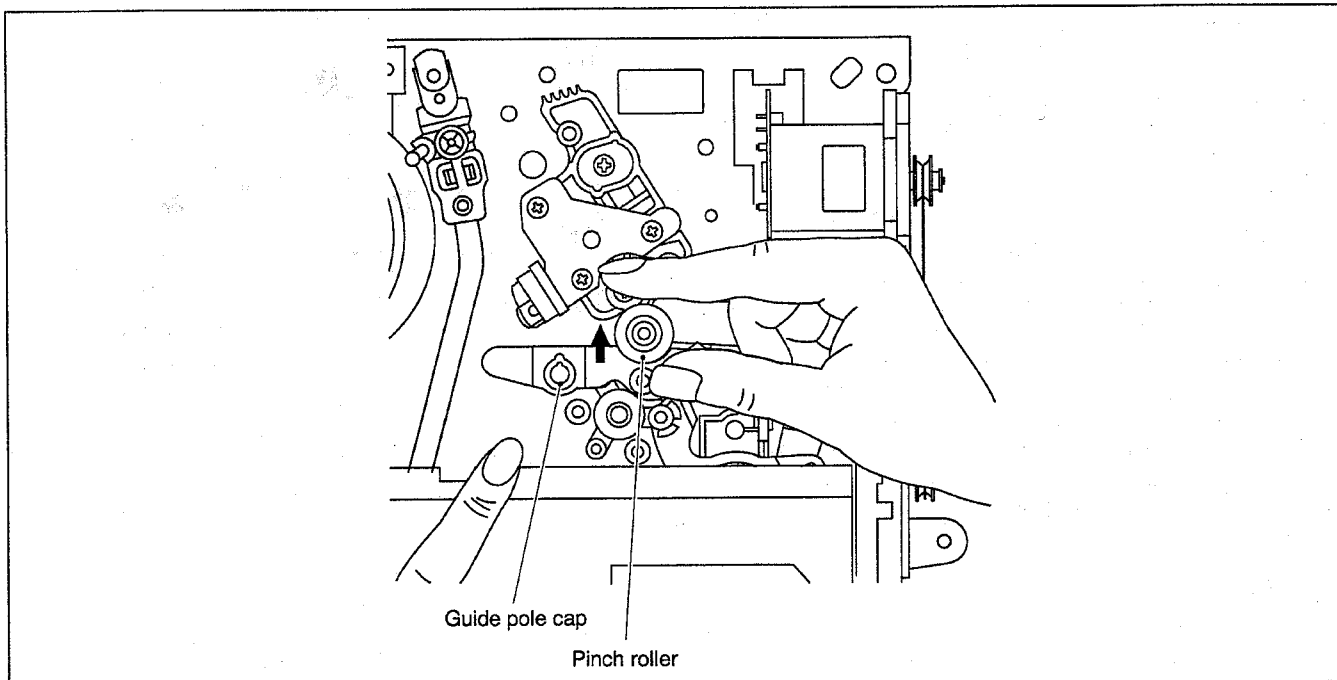

Fig. 2-1-4
- (3) Remove the top plate as done in Step (4) of "1. In case of electrical failures" and remove the guide pole cap at the same time. (See Fig.2-1-4).
- (4) While lifting the cassette tape lid, hold the cassette tape case and pinch roller by the fingers and move them toward the loading motor to relieve pressure on the tape. Then remove the tape while taking the cassette case out of the cassette holder. (See Fig.2-1-4).
- (5) Re-place the guide pole cap and take up the slack of the tape into the cassette.